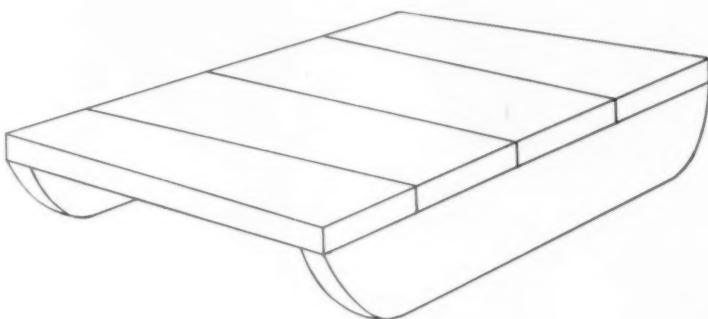

Figure 4. Users of this type of skid claim reduced injury because of flush sides and greater maneuverability. See paragraph 45. (Courtesy Rand McNally and Co.)
45. Certain advantages are claimed for the skid shown in Figure 4. The firm which uses these skids says that since the runners are flush with the outside, men do not get their toes under the skid nor bump into the sides, and less damage is done to paper and to finished stock. It is also said that this type of skid affords greater maneuverability because trucks handling these skids can get into closer space. The skids have been built as wide as 44 inches with the runners flush. They can be obtained from the paper supply houses if specified.